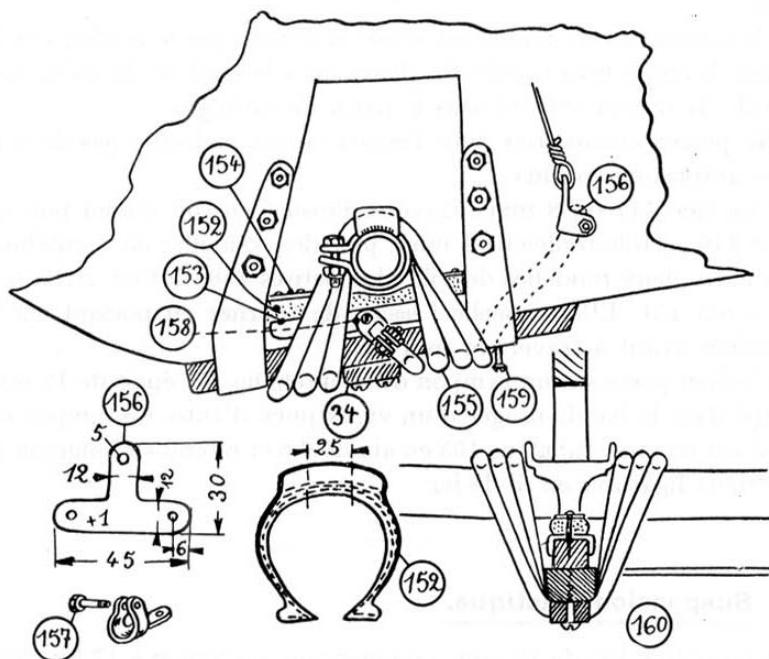

Figure 3.22: Rubber pads and bungee cord
sheet of 0.6mm aluminum ⑯ and held to the longeron ⑰ by two steel wire ligatures (fig. 3.22).